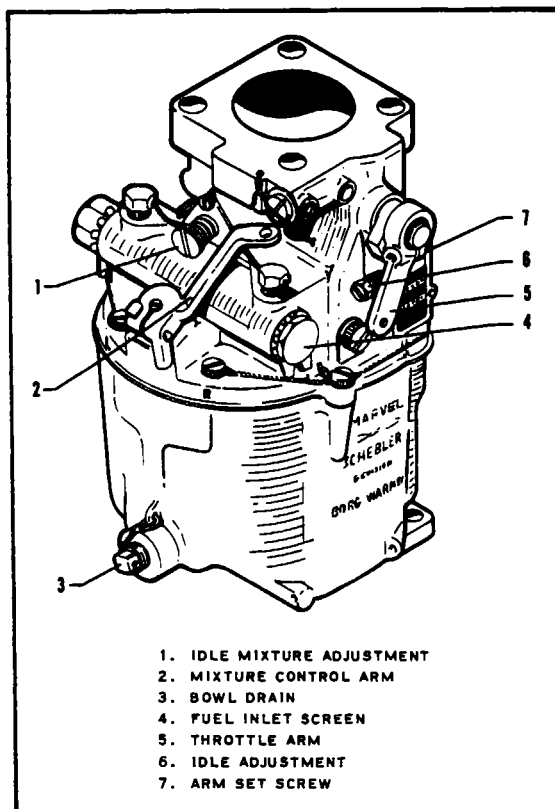

Figure 8-8. Carburetor
- d. Clean the fuel inlet screen. (Refer to Figure 8-8.)